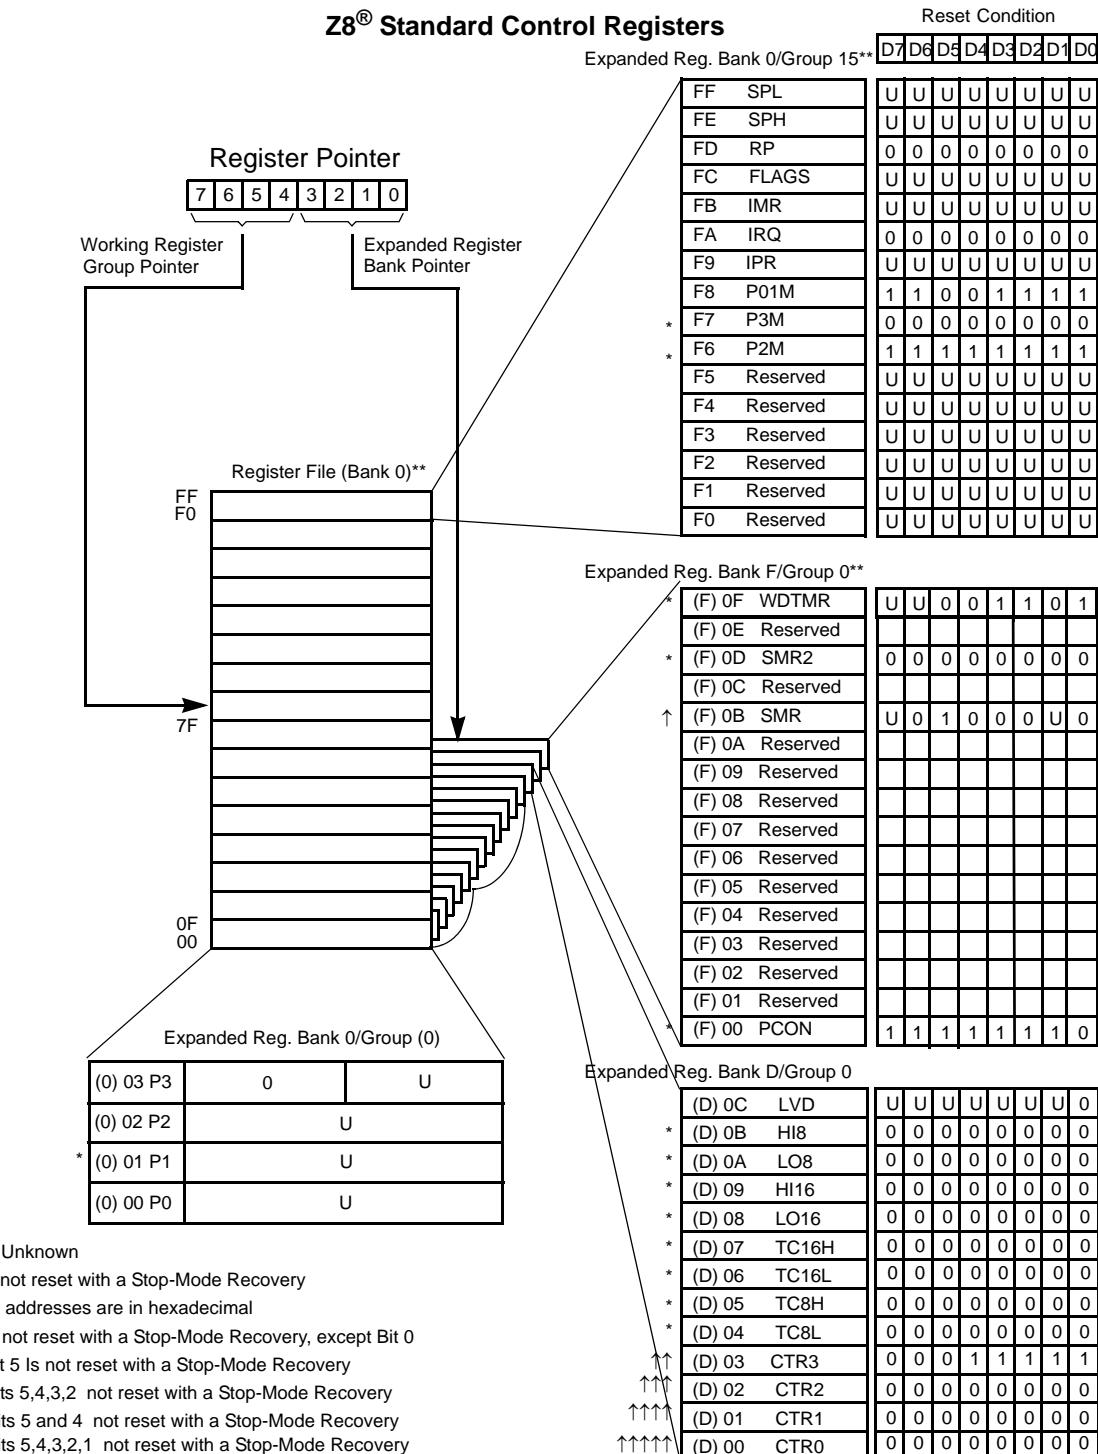

Figure 15. Expanded Register File Architecture
- **Note:** An expanded register bank is also referred to as an expanded register group (see Figure 15).
Example: Z8 GP: (See Figure 15 on page 28)